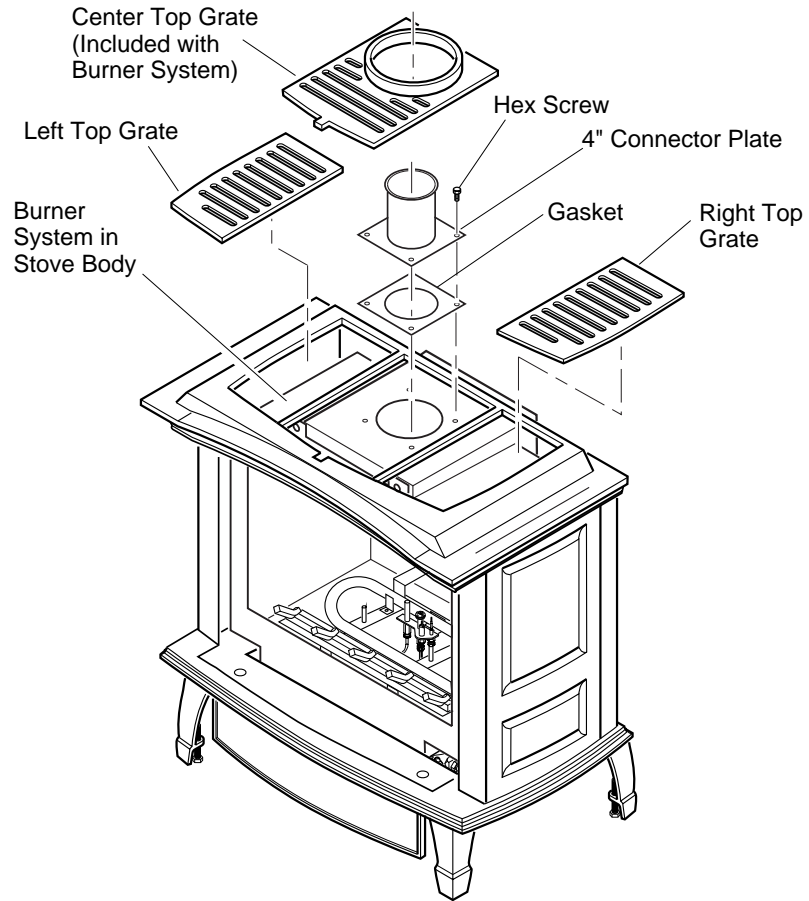

Figure 17 - Installing Gasket, Connector Plate, and Top Grates
2. Place gasket on top of burner system and align over venting hole (see Figure 17). (An extra gasket is supplied with the burner system and should be kept with the owner's manual.)
3. Place 4" connector plate over gasket and align holes. Secure with hex screws provided (see Figure 17).